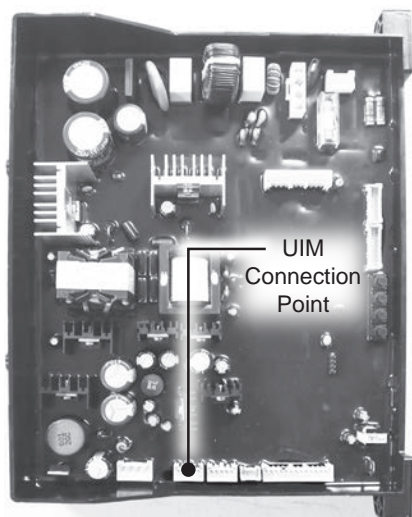

Figure 16 - Disconnecting UIM from PCB
- 10 Using Figure 16 as reference, disconnect the UIM wiring harness from PCB.